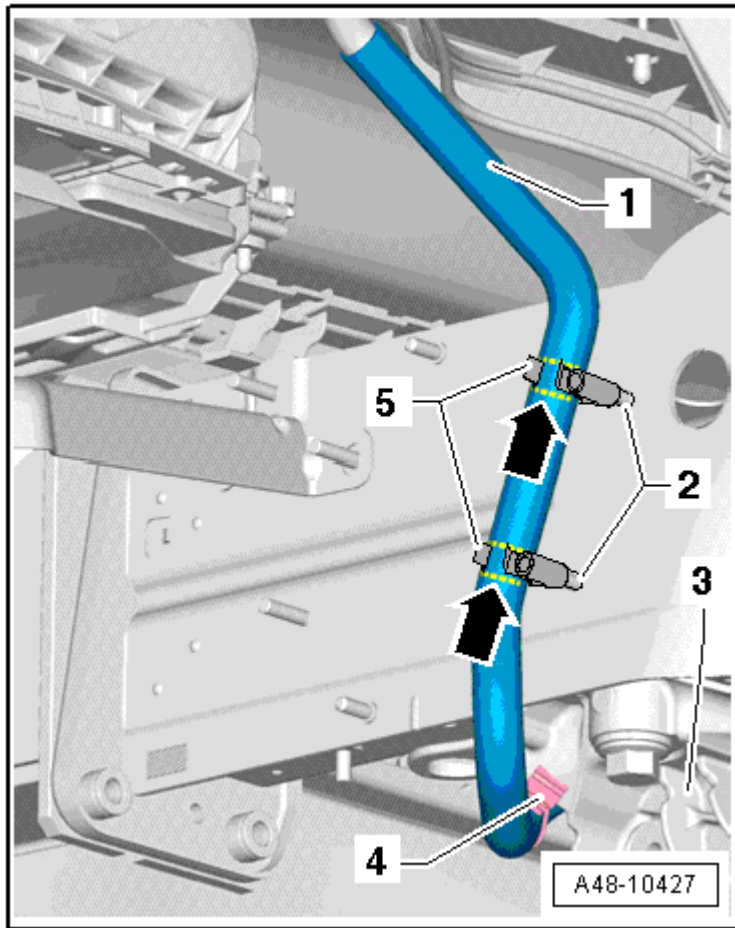

Fig. 46: Return Line Bracket To Subframe
10. Return line bracket to the longitudinal member, refer to **Fig. 46** or **Fig. 47**